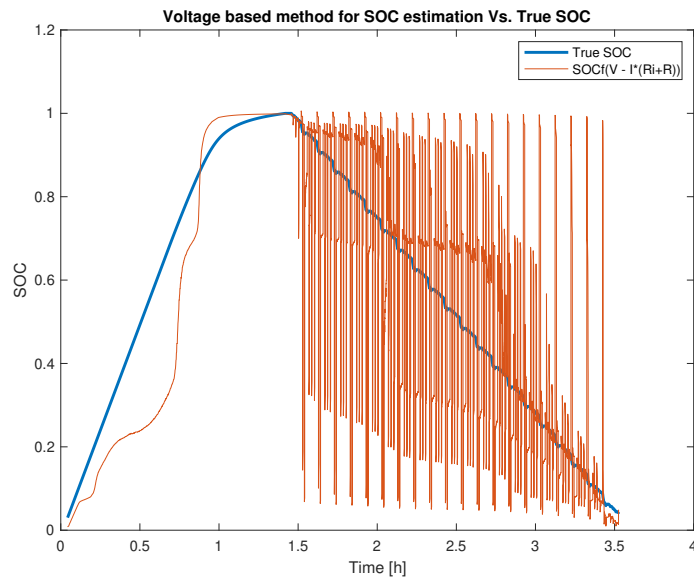

Figure 4.4: SOC vs time for the Estimated OC voltage.
- c) The result of the SOC estimation using the terminal voltage minus the product of current and internal resistance is shown in Figure 4.4. The SOC estimation using this method is more accurate than the previous one, as it takes into account the effect of current and internal resistance on the terminal voltage. The RMSE values for each case can be found in Table 4.1.